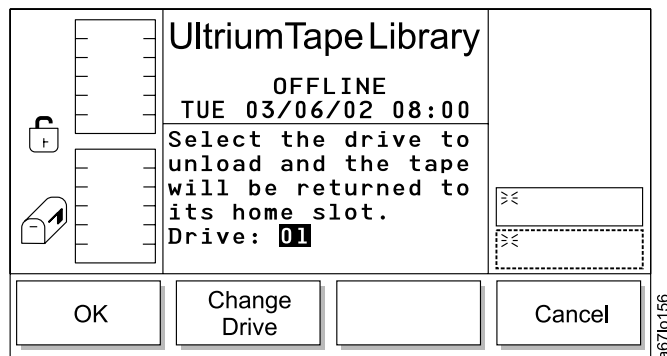

Figure 133. Unload Dialog
- If **Unload** is selected, the Unload Dialog displays (see Figure 133).